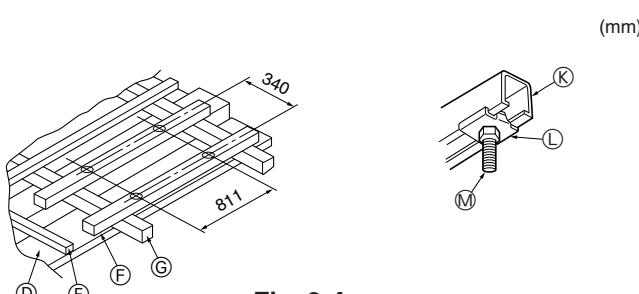

Fig. 2-4
- (①) Outer side of grille
- (②) Ceiling opening
- (③) Bolt pitch
- (④) Electric box
① Wooden structures (Fig. 2-4)